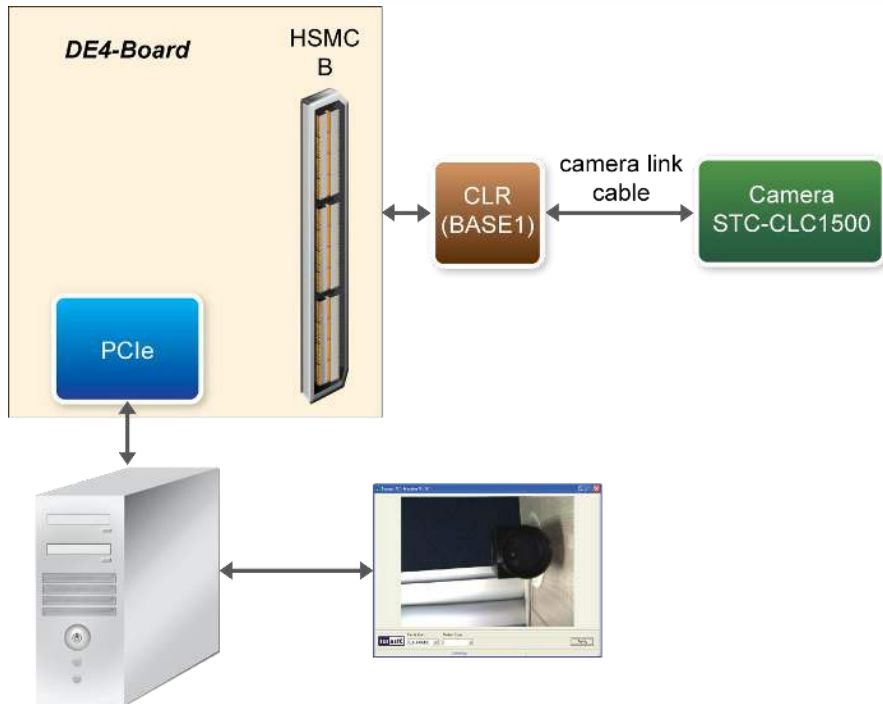

Figure 5-8 Setup for PCI Express Application for Digital Camera Link on DE4
1. Ensure the connection is made correctly as shown in **Figure 5-8**. Make sure the CLR Card is connected to **J21 (HSMC PORT B)** and with two **THCB-HMF2** interface cards which are bundled in the DE4 kit.